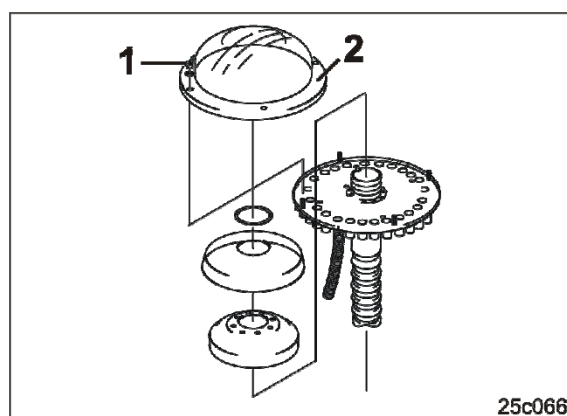

Fig. 189
7. Loosen the winged nuts (Fig. 189/1) and remove the clean plastic flap (Fig. 189/2) from the distributor head.
9. Install the plastic cap (Fig. 189/2).
10. Fix the plastic cap with winged nuts (Fig. 189/1).